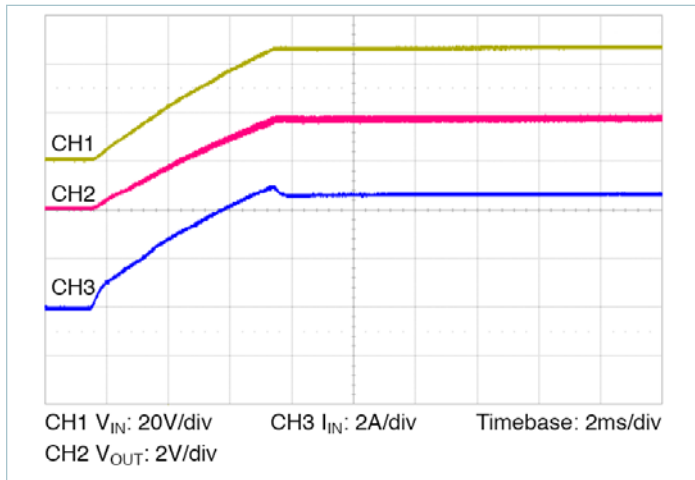

Figure 13 — Start up from application of V_{IN} ; VC pre-applied $C_{OUT} = 9100\mu\text{F}$
- **Normal operation (VC applied prior to V_{IN}):** In this case the controller is active prior to ramping the input. When the input voltage is applied, the VTM module output voltage will track the input (See Figure 13). The inrush current is determined by the input voltage rate of rise and output capacitance. If the VC voltage is removed prior to the input reaching 26V, the VTM may shut down.